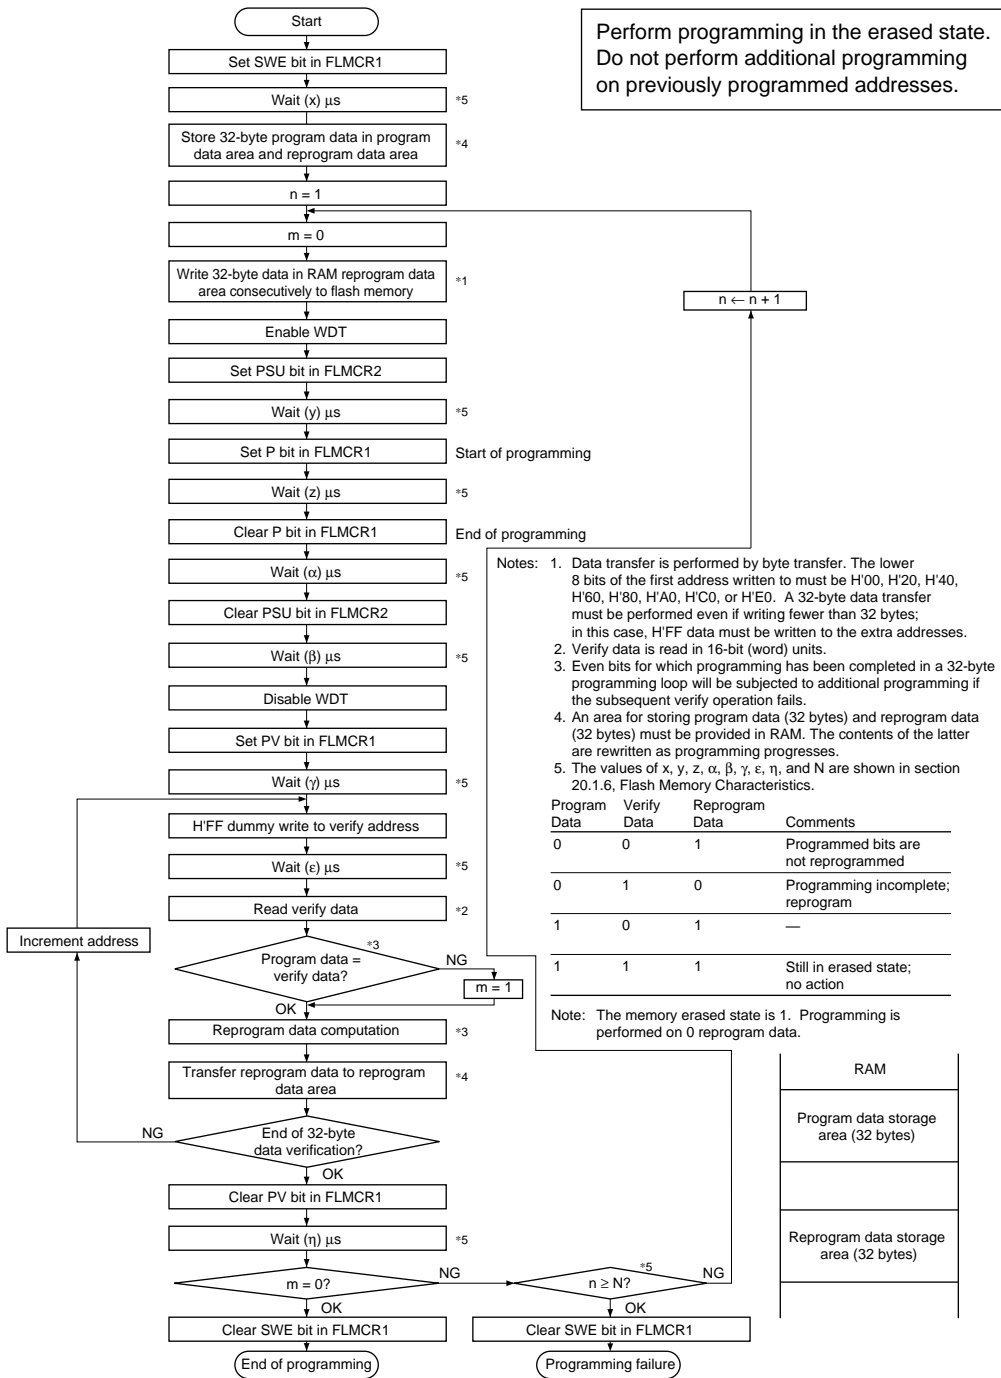

Figure 17.21 Program/Program-Verify Flowchart
Follow the procedure shown in the program/program-verify flowchart in figure 17.21 to write data or programs to flash memory. Performing program operations according to this flowchart will enable data or programs to be written to flash memory without subjecting the device to voltage stress or sacrificing program data reliability. Programming should be carried out 32 bytes at a time.
After the elapse of a given programming time, the programming mode is exited (the P bit in FLMCR1 is cleared to 0, then the PSU bit in FLMCR2 is cleared to 0 at least (α) μs later). Next, the watchdog timer is cleared after the elapse of $(y + z + \alpha + \beta)$ μs or more, and the operating mode is switched to program-verify mode by setting the PV bit in FLMCR1. Before reading in program-verify mode, a dummy write of H'FF data should be made to the addresses to be read. The dummy write should be executed after the elapse of (γ) μs or more. When the flash memory is read in this state (verify data is read in 16-bit units), the data at the latched address is read. Wait at least (ϵ) μs after the dummy write before performing this read operation. Next, the originally written data is compared with the verify data, and reprogram data is computed (see figure 17.21) and transferred to the reprogram data area. After 32 bytes of data have been verified, exit program-verify mode, wait for at least (η) μs , then clear the SWE bit in FLMCR1 to 0. If reprogramming is necessary, set program mode again, and repeat the program/program-verify sequence as before. However, ensure that the program/program-verify sequence is not repeated more than (N) times on the same bits.